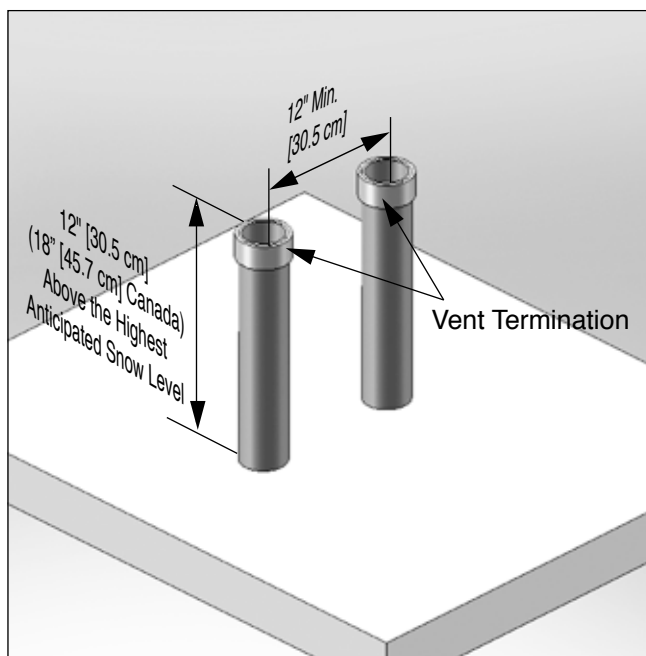
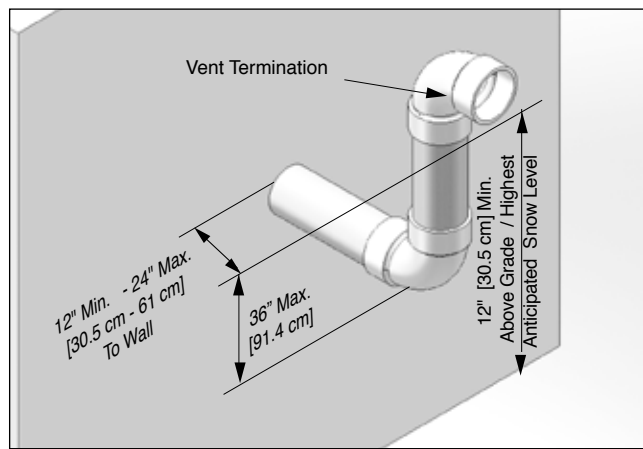

Fig. 17 - Category IV- Vertical Termination of Multiple INSTINCT Boilers
Fig. 19 - Category IV - Sidewall Snorkel Termination of Vent Pipe
2. Each vent termination must be a minimum 12" [30.5 cm] from the adjacent termination for installations in the U.S. as shown in **Fig. 17 below**. For installations in Canada, provide clearances as required by CAN/CSA B149.1.
- Using a 90° elbow as shown in *Fig. 19*.
3. Locate the vent pipe penetration to provide clearances as described in *Fig. 17 on page 26* and *Fig. 19 on page 27*.
- Using a 90° elbow as shown in *Fig. 19 on page 27*.
Do not extend the vent pipe outside the sidewall beyond the dimensions shown in *Fig. 17 on page 26* and *Fig. 19 on page 27*. Extended exposure of the vent pipe could cause condensate to freeze and block the vent pipe, resulting in substantial property damage, serious injury, or death.
- *Fig. 19 shows one option for vent terminations of multiple INSTINCT boilers. Either termination option shown in Fig. 17 on page 26 or Fig. 19 on page 27 can be used for multiple INSTINCT boilers. The 12" [30.5 cm] minimum distance between centerlines of the vent piping must be maintained for any chosen option.*
- *Reference Fig. 17 on page 26 and Fig. 19 on page 27 for vent termination dimensions for each unit installed in a multiple installation.*